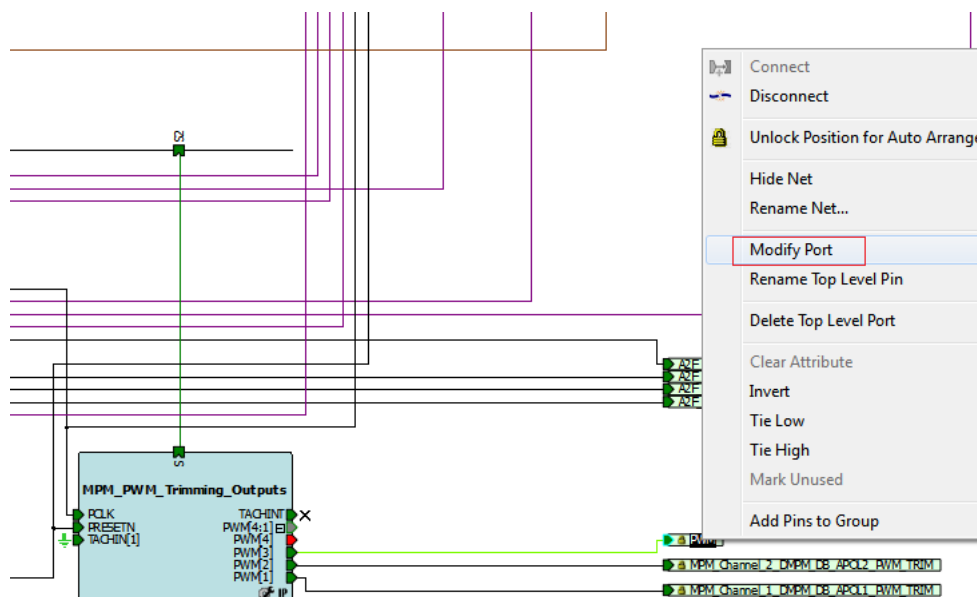
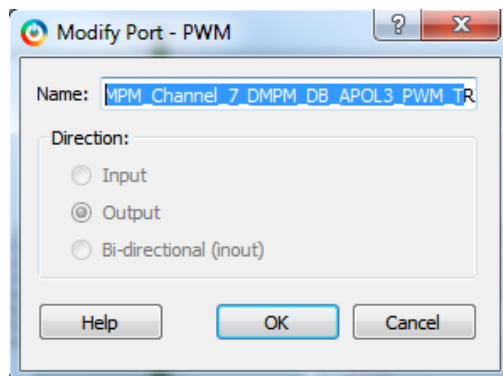

Figure 41 • PWM[3] Select Modify Port
Figure 42 • Modify Port Dialog Box
6. Modify the PWM[3] port as shown in below Figure 41. Enter the name of the port as MPM_Channel_7_DMPM_DB_APOL3_PWM_TRIM as shown in Figure 42.